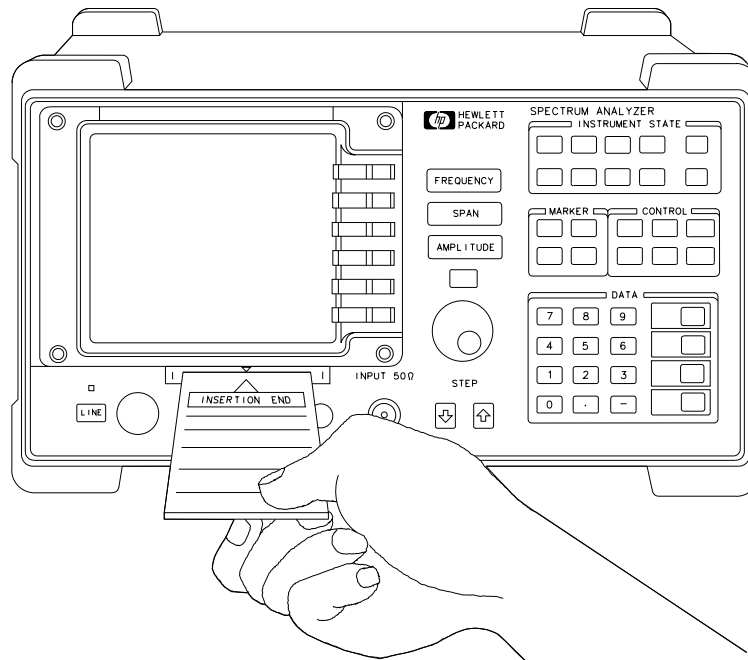

Figure 62 Inserting the Memory Card
- 2 Insert the card with its arrow matching the raised arrow on the bezel around the card-insertion slot. See Figure 62 on page 130.